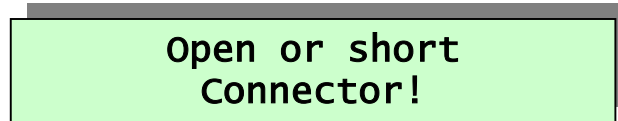

Figure 3-5 Open or short
- c) When a component is connected to the terminals, the following information is displayed as shown in figure 3-5: